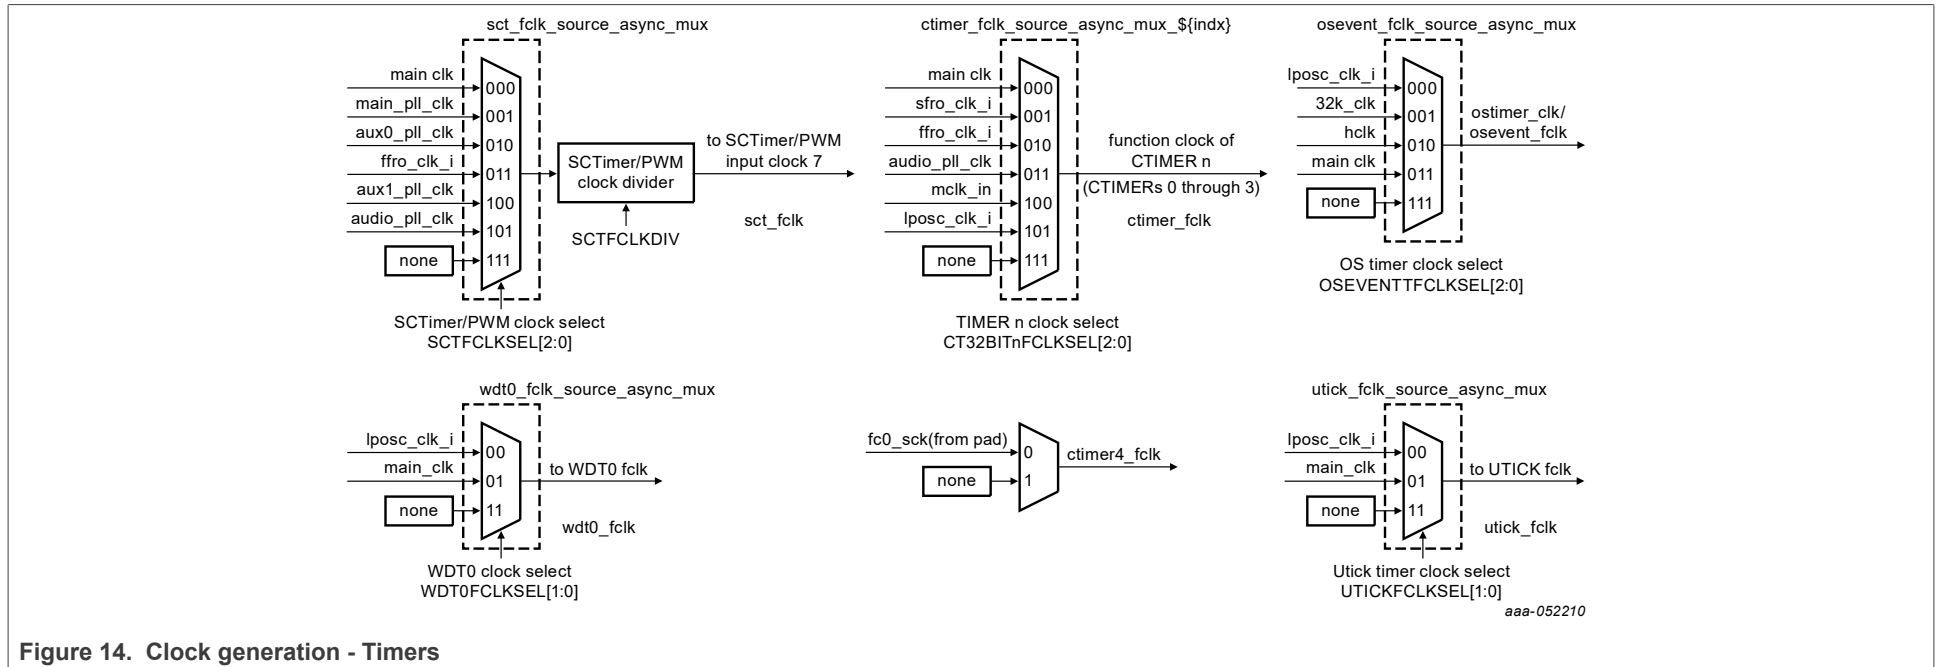

Figure 14. Clock generation - Timers
- Figure 14 "Clock generation - Timers"